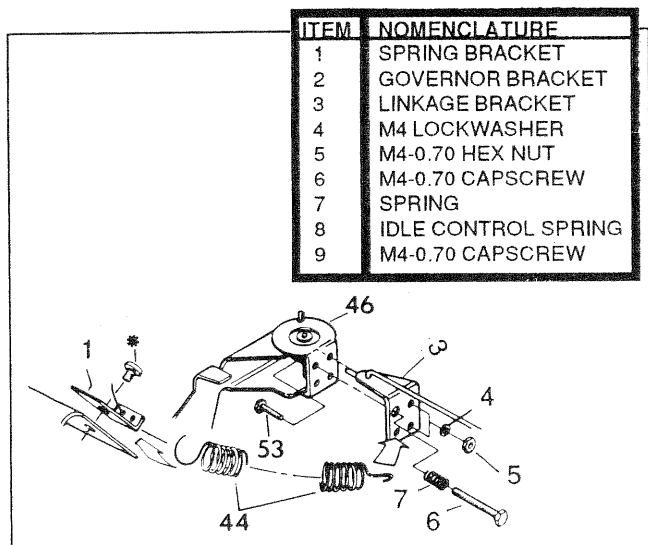

Figure 177. Idle Control Linkage and Springs
Refer to Figure 177. On units with idle control, the governor control has been reworked to accept a linkage mounting bracket. Linkage from the idle control solenoid is routed through an opening in the heat deflector shield, and connects into a hole in the linkage mounting bracket. Thus, idle control solenoid movement will result in movement of the linkage mounting bracket and the governor control. A governed idle spring also connects to the linkage mounting bracket and to a spring mounting bracket on the engine-generator.
- See Figures 177 and 178. Check that all springs, linkages and the idle control solenoid are properly installed. The cap screws that retain the solenoid mounting brackets to the fuel tank heat shield should be tight.